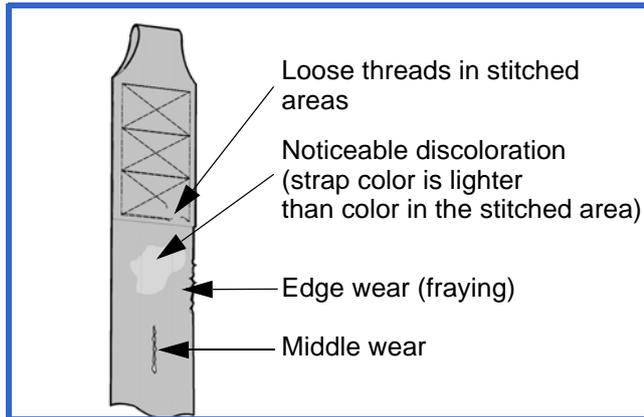

Fig. 53
- 2) Look for any signs of wear or discoloration (see Fig. 53).